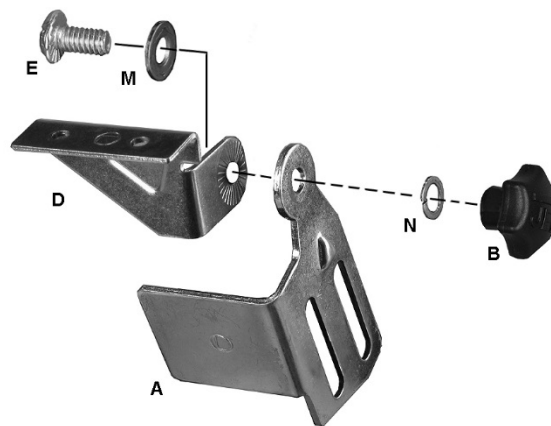

Figure 3: Brackets to Spark Guards
Refer to Figure 3.
1. Assemble the left spark guard (A) and eye shield bracket (D) using Figure 3 as a guide. Make sure spark guard and bracket are marked **L**.